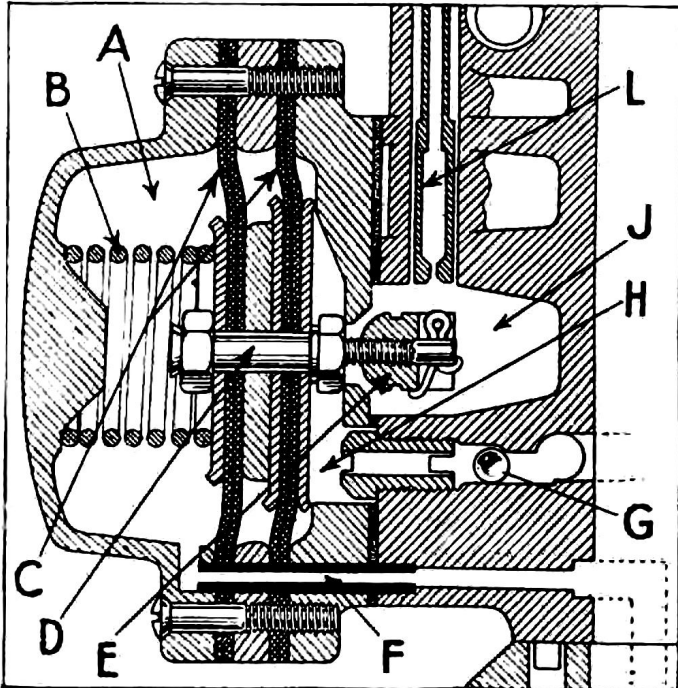
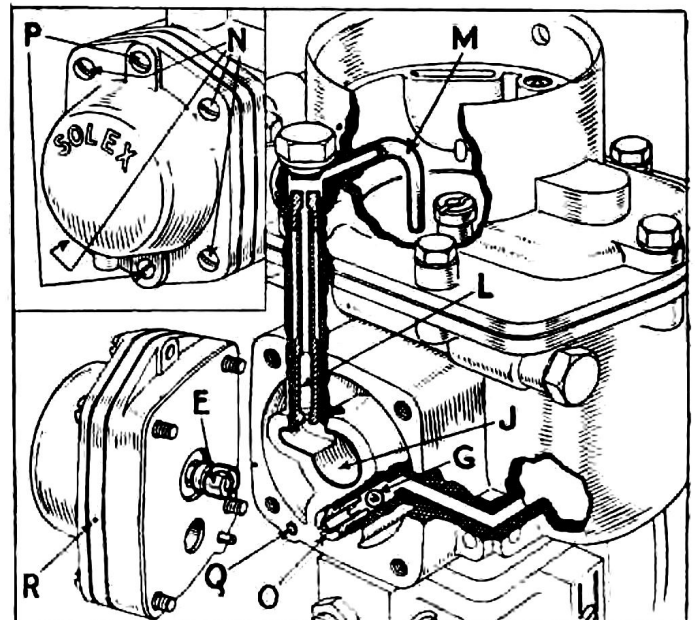

Fig. 39.—SECTION THROUGH CARBURETTER ECONOMY DEVICE.
Fig. 40.—CARBURETTER ECONOMY DEVICE.
Entirely automatic in action, the "economy device" has no external connections. It is set permanently to suit the engine's requirements and must not be adjusted. The functions of this device are indicated by Figs. 39 and 40.
First, petrol pressure forces the ball valve (G) on to its seating, thus preventing the return of petrol to the float chamber. Secondly, the valve (E) is opened and petrol is forced from the chamber (H) into the space (J). This latter action displaces petrol already present in the space (J); the petrol is forced along a drilled passage and then vertically up the capacity tube (L), through the injection tube (M), (Fig. 40), finally emerging into the choke.
with the throttle in its mid-way position, the valve (E) is seated, so that no petrol is released from the chamber (H, Fig. 39), and the deep depression on the end of the injection tube (M, Fig. 40) is sufficient to raise the petrol from the capacity tube (L).